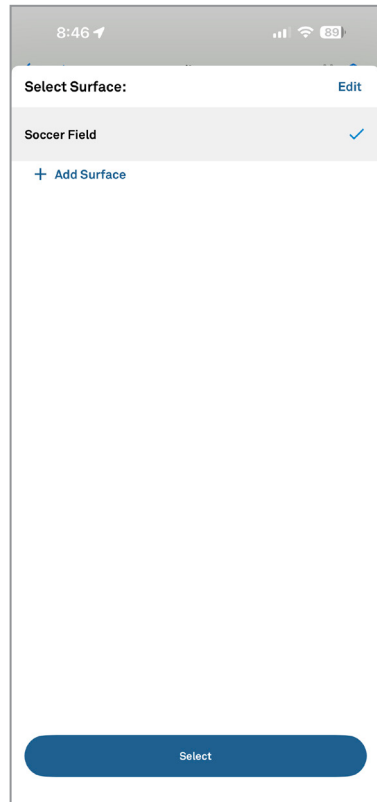

Figure 4 Select Surface to go to Soil Test
3. Check a surface and press select (Figure 4).